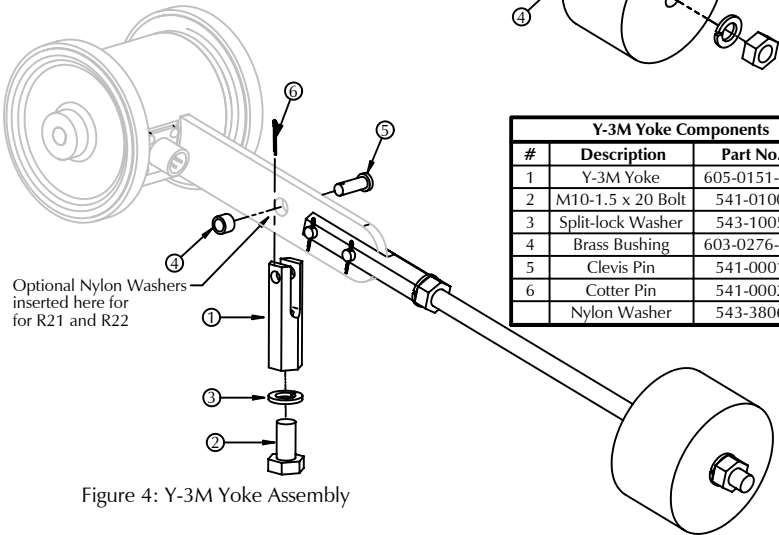

Figure 4: Y-3M Yoke Assembly
3. Assemble the Y-3M yoke assembly (figure 4).